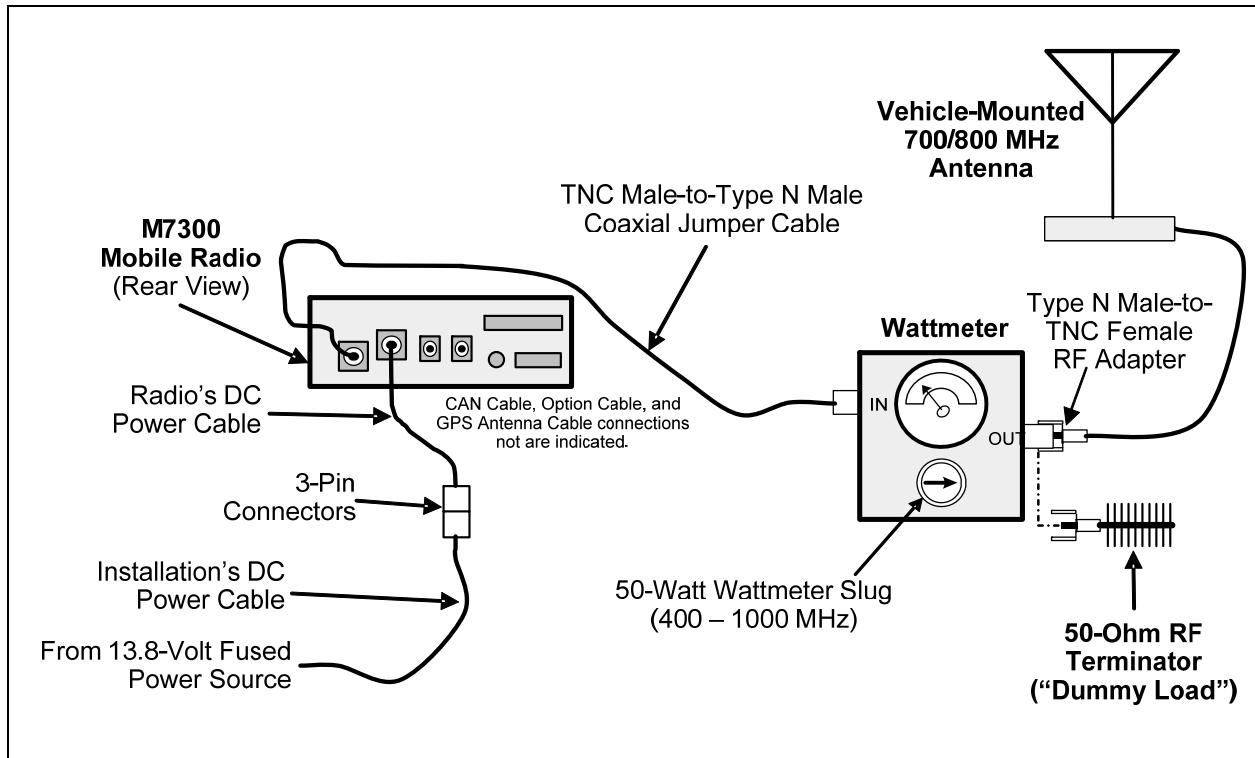

Figure 14-1: Wattmeter Connections for Antenna System Tests
1. Using the Type N male to TNC male RF coaxial jumper cable, connect the radio's antenna connector to the wattmeter's input connector. Refer to Figure 14-1 as necessary.
1. Connect the antenna cable from the vehicle-mounted 700/800 MHz antenna to the wattmeter as shown in Figure 14-1.